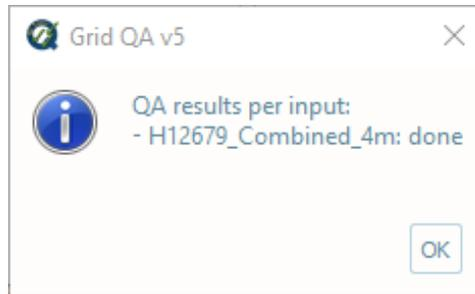

Fig. 2.17: The output message at the end of **Grid QA v5** execution.
- After computing, the output window opens automatically, and the results are shown (Fig. 2.17).